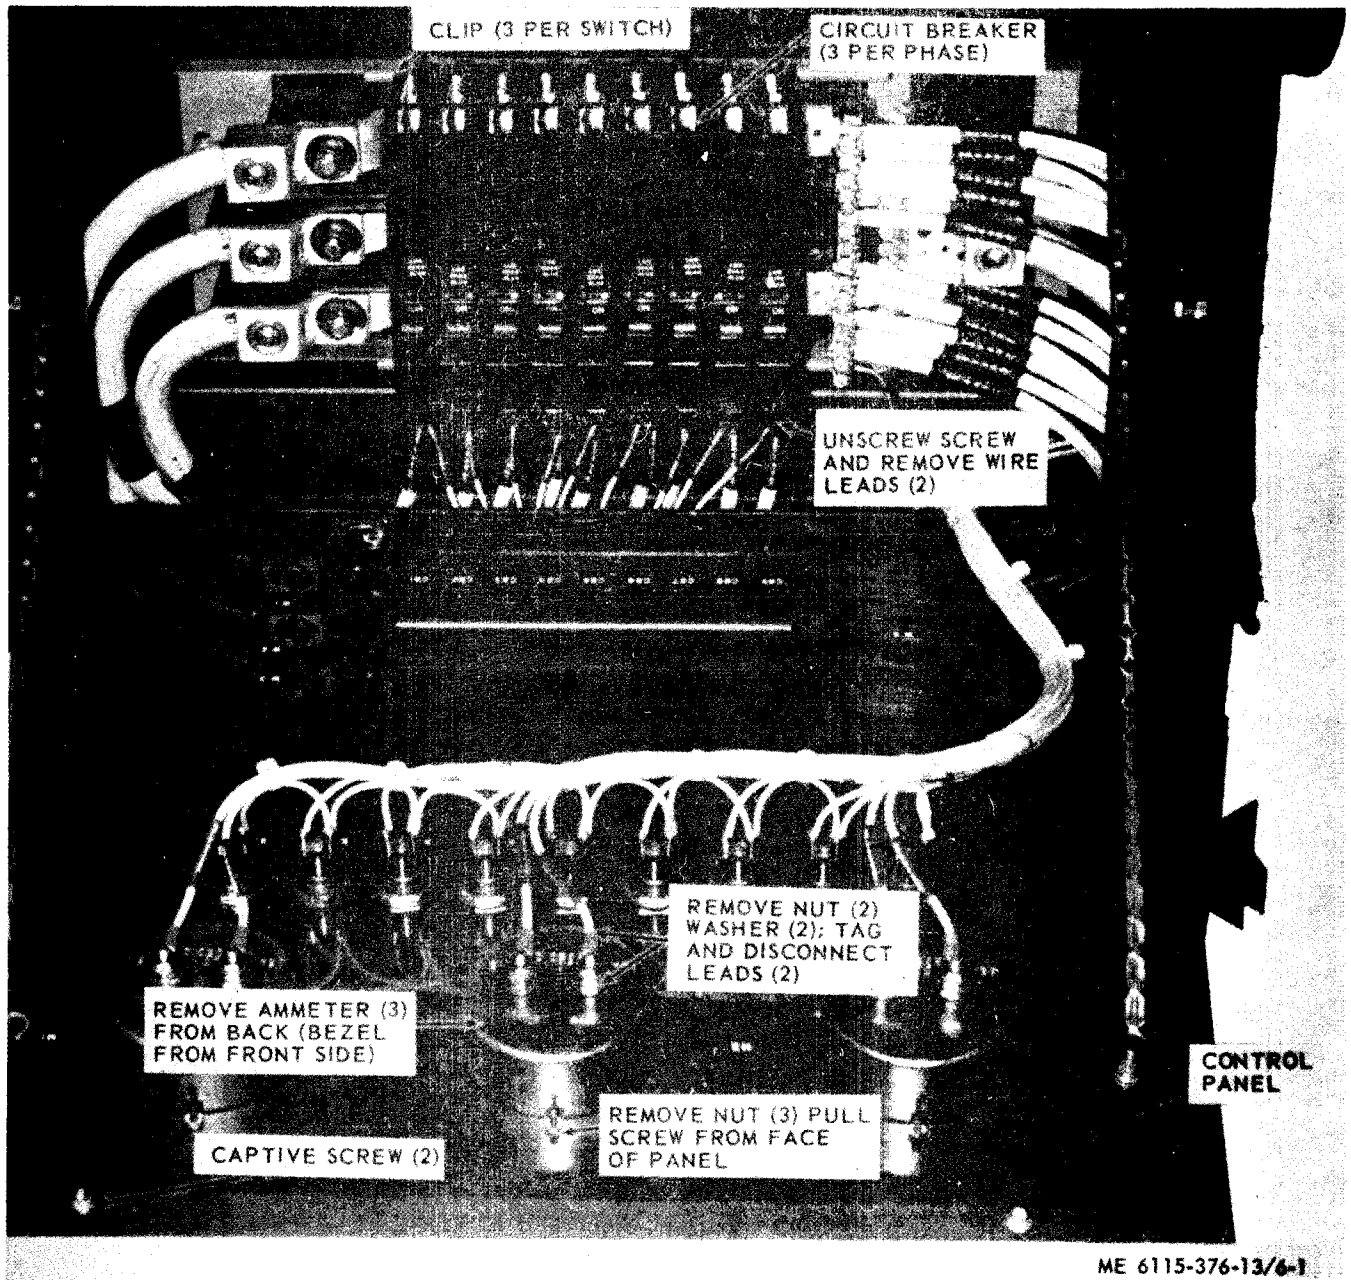
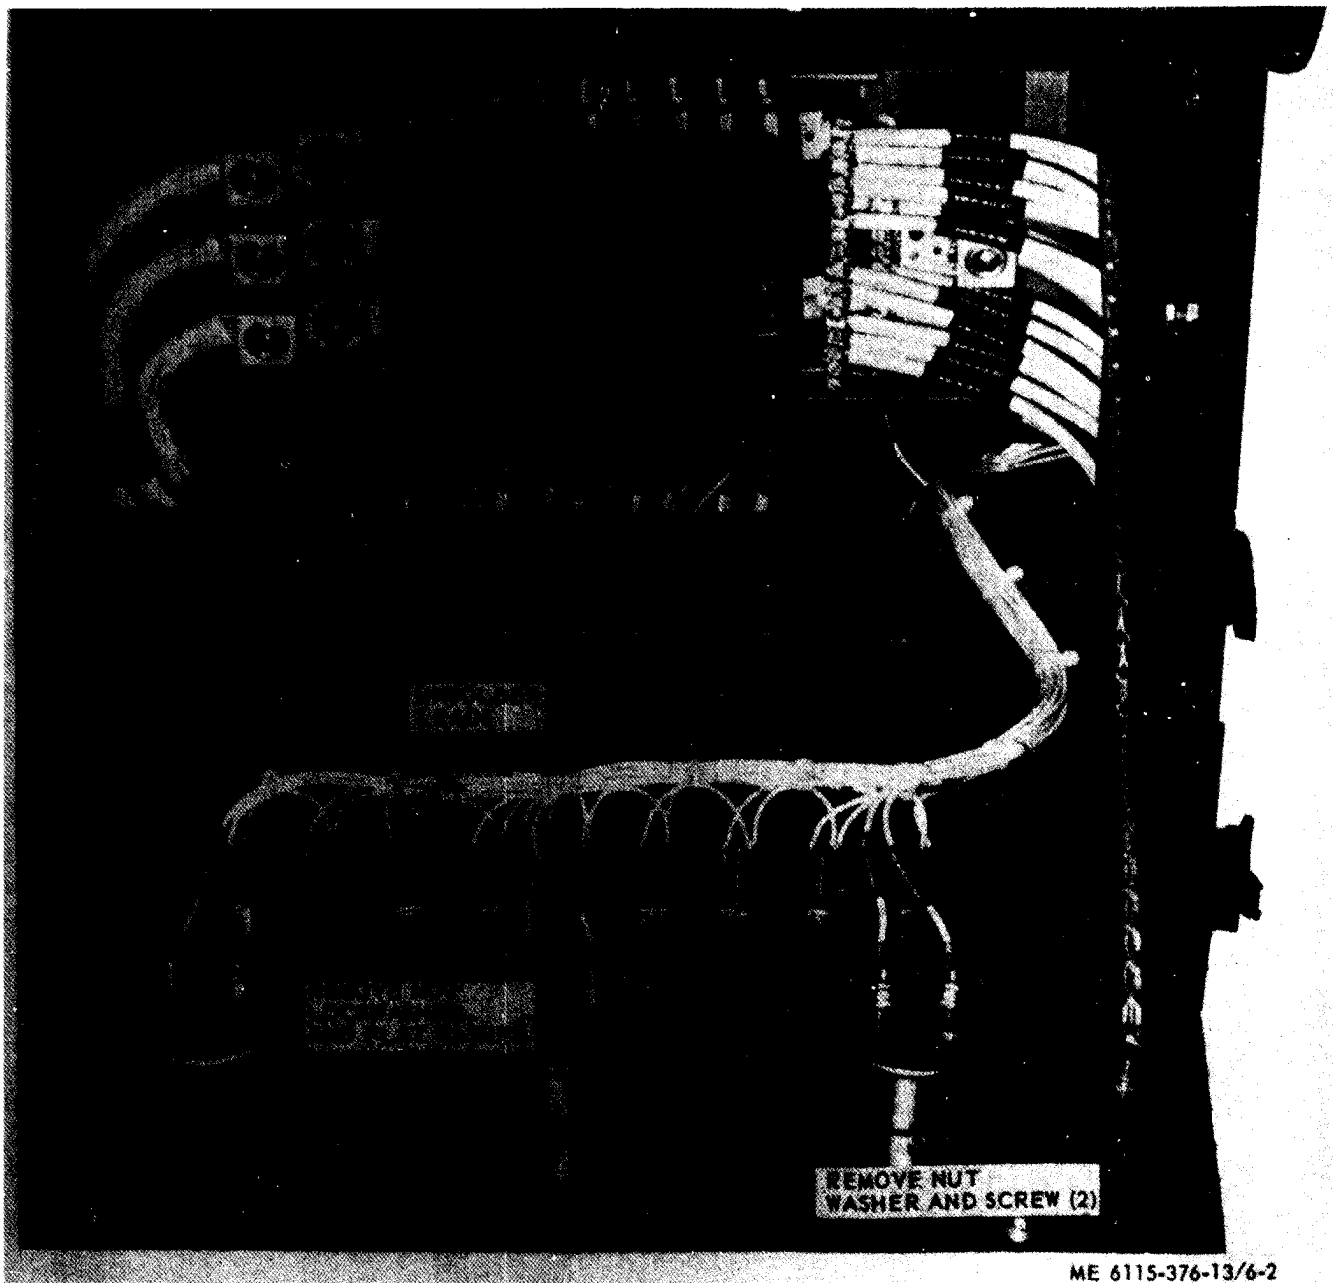

Figure 6-1. Distribution box circuit breakers and ammeters, removal and installation.
Figure 6-2. Lamp socket assemblies and chain removal and installation (distribution box, all units).
(1) If necessary, remove distribution box from trailer or truck (para 5-6).
(2) Release captive screw at top corners of distribution panel and secure panel in open position (fig. 6-1).
(3) With screwdrivers on clip at top of defective circuit breaker, pry out on clip at top and bottom until center clip is clear of bus bar.
(4) Unscrew screw at bottom of circuit breaker and pull out the two wire leads.
(5) Place wire leads ((4) above) in position on replacement circuit breaker and tighten holding screw.
(6) Snap replacement circuit breaker into place on panel (see that clip is fully engaged at top and bottom).
(7) Close panel and secure captive screws.
*b. Ammeters, Removal and Installation.* To replace faulty ammeters, open distribution panel (a(2) above). Tag and remove wire leads and nuts (fig. 6-1); remove nuts holding meter to panel, (Remove meter from back side; bezel from front side). Put replacement meter into panel, add bezel and secure the 3 screws holding meter to panel. Replace wire leads and attaching hardware, Close and secure control panel.
(1) Open distribution panel (a(2) above).
(2) Unsolder all leads of the defective socket assembly (open laced cable if necessary).
(3) Unscrew lens from face of panel, remove lens and bayonet-type bulb, and unscrew threaded collar holding socket to face of panel, and remove collar.
(4) Unscrew and remove nut, lockwasher and flatwasher from back side of panel, and remove defective lamp socket assembly.
(5) Place replacement lamp socket assembly in panel; screw on threaded collar on face of panel, and flatwasher, lockwasher and nut to back of panel, draw nut up securely. Solder leads in same order as removed; add bulb and lens to face of panel (fig. 6-2).
(1) Prop cover in open position and open distribution panel (fig. 6-2 and 6-3).
(3) Remove nuts and washers and pull lamp socket assemblies from panel. Also pull ammeters from panel, Allow ammeters and lamp sockets to hang gently from wiring harness.
(4) Remove attaching hardware from chain (fig. 6-2), and remove attaching hardware from bottom of panel (fig. 6-3). Remove panel.
(5) Place replacement distribution box, and install form mounting screws ( fig. 6-3) to hold panel to distribution box. Attach chains to panel. Gently install ammeters and lamp socket assemblies into proper position and secure with attaching hardware (fig. 6-1, 6-2 and 6-3). Check that all lamps are secure.